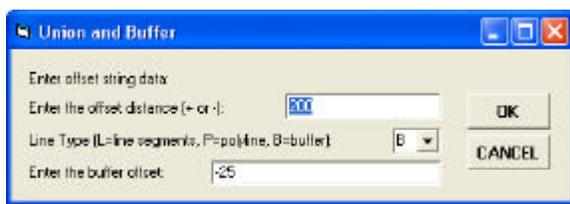

Figure 7
The multi-input dialog box of Figure 7 is displayed. In this case, branch to the **Polygon Buffer**, or to the **Line, Polyline and Curve Buffer** subsection below depending on the feature type that has been selected for processing.
7. When the dialog box of Figure 7 is displayed, a small blue plus (+) sign is also displayed along the selected feature. If more than one feature has been selected, the blue plus sign is displayed along the first feature encountered by the program during its processing. This blue plus sign is displayed to the right side of the feature with respect to the direction of the feature.
Upon display of the multi-input dialog box of Figure 7, the user should:
- (i) If a zero has been entered as an offset in both the *Enter the offset distance (+ or -)*: data field above and in the *Enter the buffer offset*: data field below, a warning message is displayed informing the user that erroneous offsets have been specified, and the dialog box of Figure 7 is displayed again for the user to correct the entries, and continue.
- May not be entered if a zero value has also been entered in the *Enter the offset distance (+ or -)*: data field above, in which case a warning error message is displayed informing the user of erroneous entries. In this case, the user should click at the *OK* button to acknowledge the message, and display the dialog box of Figure 7 to correct the entries and continue with the work.
- **9b Click** at the **OK** button to create the series of two point lines, or the single polyline, and display again the multi-input dialog box of Figure 7, in which case return to **Step 6b** to create another similar feature,
proceed as per the instructions in the preceding subsection, in which case the dialog box of Figure 7 is displayed.
2. When more than one feature of the same type, and/or features of different type are selected concurrently, the user may encounter certain warning or error messages without the re-display of the dialog of Figure 7. If such a warning or error message is not displayed, and the dialog of said figure is displayed, the user may proceed with said instructions, but should be aware that the results may not be as expected, depending on the geometry of the features that have been selected and their orientation in the map display.
3. The dialog box of Figure 7 is the same as the dialog box of the  Establish offset element strings tool with which the user may cre-